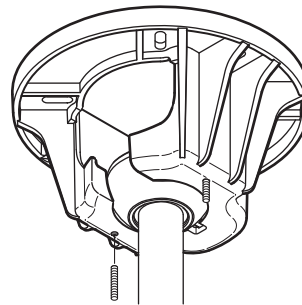

Figure 1a
- **Transmitter:** remove battery cover. Press firmly below arrow and slide battery cover off. Slide code switches to your choice of up or down position. Factory setting is all up. Do not use this position. With a small screwdriver or ball point pen slide firmly up or down (Figure 1a). Replace battery cover on the transmitter.
1. Screw in two threaded rods into the Hanger Bracket (Figure 1a).